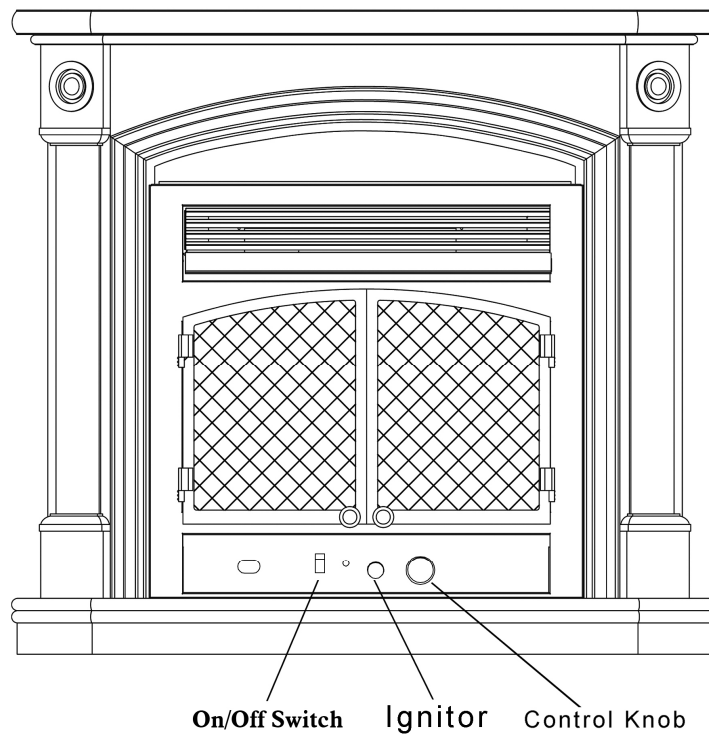

Figure 14 - ON/OFF Switch location
3. Turn control knob clockwise to the OFF position, see Figure 14.
4. Wait five (5) minutes to clear out any gas. Then smell for gas around heater and near floor. If you smell gas, **STOP!** Follow "B" in the safety information on Warnings plate. If you don't smell gas, go to the next step.
5. Turn control knob counterclockwise to the PILOT position. Keep control knob pressed in for five (5) seconds. **Note:** You may be running this heater for the first time after hooking up to gas supply. If so, the control knob may need to be pressed in for 30 seconds. This will allow air to bleed from the gas system. If control knob does not pop up when released, contact a qualified service person or gas supplier for repairs.
7. Keep control knob pressed in for 30 seconds after lighting pilot. After 30 seconds, release control knob. **Note:** If pilot goes out, repeat steps 3 through 7. This heater has a safety interlock system. Wait one (1) minute before lighting pilot again.